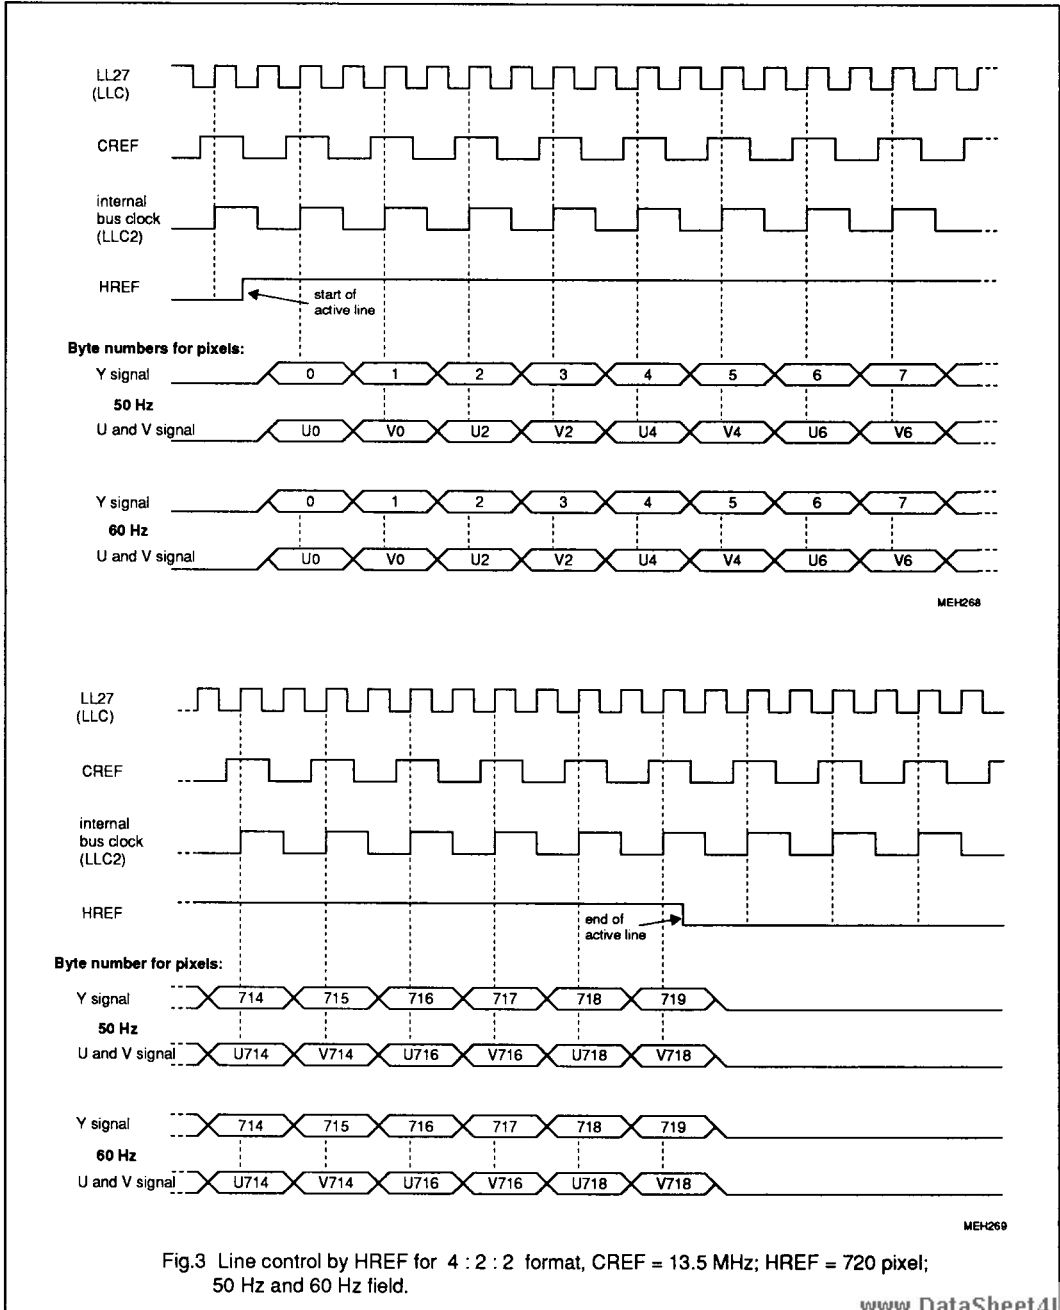

Fig.3 Line control by HREF for 4 : 2 : 2 format, CREF = 13.5 MHz; HREF = 720 pixel;
Data is read with the rising edge of LLC (line-locked clock) to achieve a data rate of LLC at MC = HIGH only. If MC is supplied with the frequency CREF (LLC/2 for example), data is read only at every second rising edge (Fig.3). The 7-bit YUV data are also supported by means of the R78-bit (R78 = 0). Additionally, the luminance data format is converted for internal use into a two's complement format by inverting MSB. The Y input byte (bits Y7 to Y0) represent luminance information; the UV input byte (bits UV7 to UV0) one of the two digital colour-difference signals in 4:2:2 format (Table 2).
The HREF input signal (HREF = HIGH) determines the start and the end of an active line (Fig.3), the number of pixels respectively. The analog output Y is blanked at HREF = LOW, the (B-Y) and (R-Y) outputs are in a colourless state. The blanking level can be set by the BLV-bit. The SAA7164 controllable via the I2C-bus
**Table 2** Data format 4 : 2 : 2. (Fig.3)